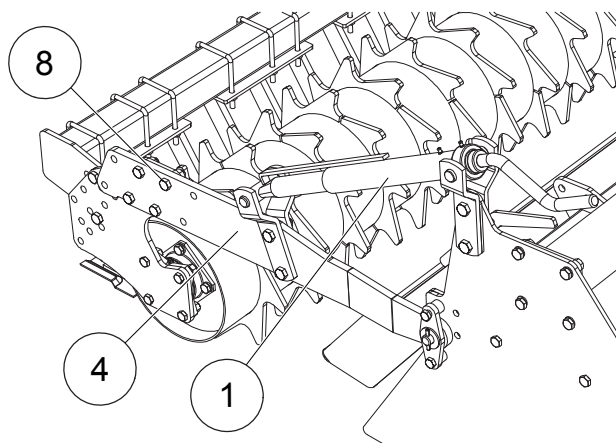

FIG. 10
- Fit the roller unit. Loosen the screws (8, "Fig. 10") of the roller supports to the arm (4).
- Mount the roller adjustment jacks (1, Fig. 10).